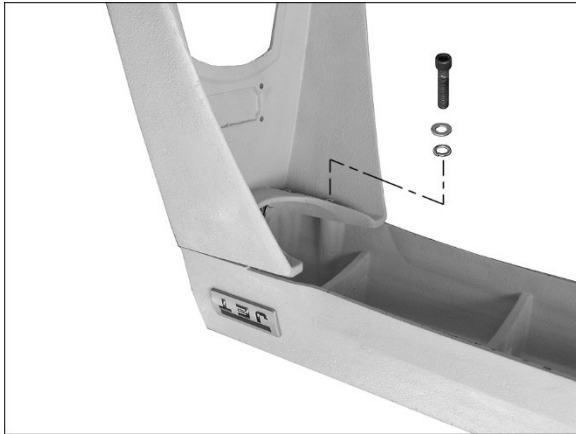

Figure 4
Refer to Figure 4.
4. Install legs with eight 5/16" screws, lock washers and flat washers (Figure 4), and 6mm hex key.